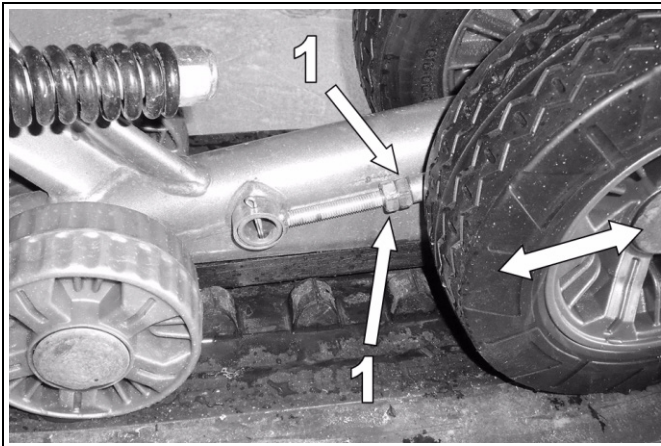

Figure 18
- Set rubber track tension to the minimum (refer to Figure 18).